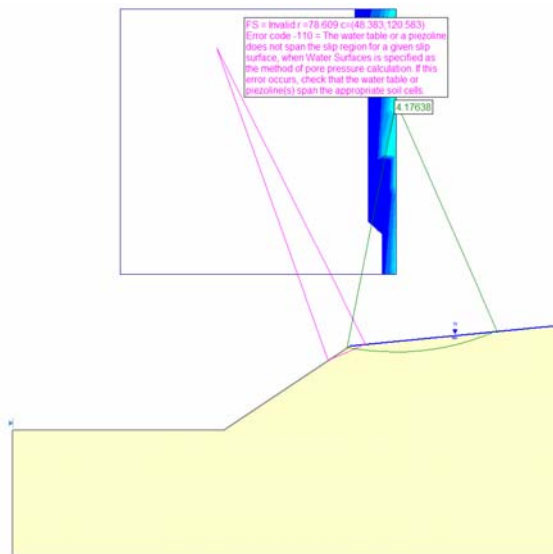

Figure 3: Viewing slip surface error codes
2. In the **Query** menu, choose the **Add Query** option. Move the mouse inside the slip center grid. As seen in Figure 3, the program will display error code information for why a particular center was not calculated. This information is usually enough to determine the reason for why the program is not calculating results at a particular location. A complete list of error codes is given in the *Slide* Help.